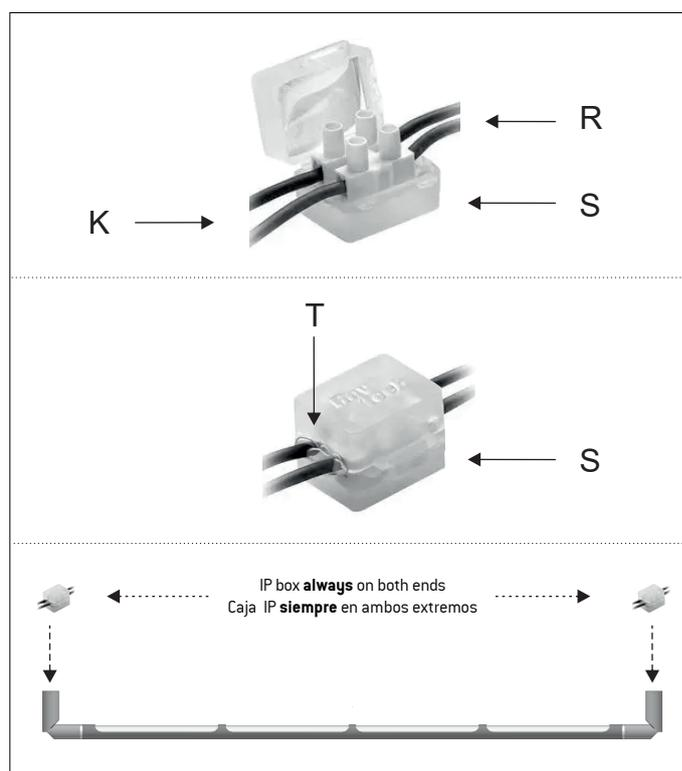

Figure 6
Connect the lamp cables (K) to the driver cables (R) inside the IP junction box (S) made for outdoor installation. Close the IP junction box (S). Excess gel (T) should not be removed to ensure the box is sealed. Figure 6